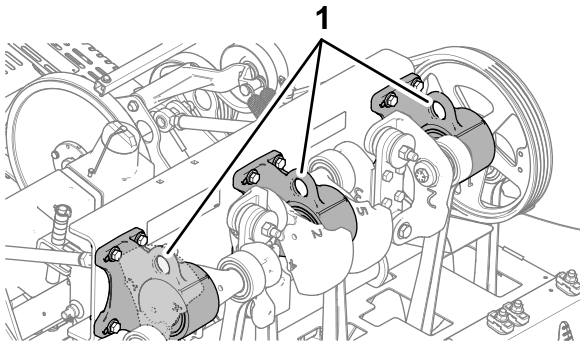

**Figure 139**
3. Place the jack securely under the frame plate just inside of the rear wheel (Figure 139).